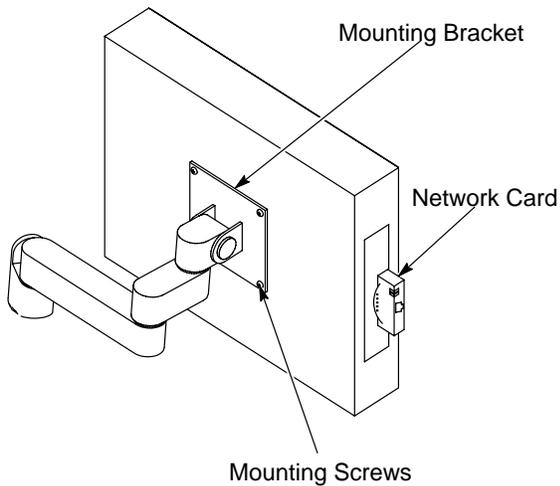

Figure 5 Mount and Network Card Connections for ACS-1 Computer
See Figure 5. Use the four screws to mount the computer to the mounting arm bracket.
3. See Figure 5. Insert the network card on the side of the computer.